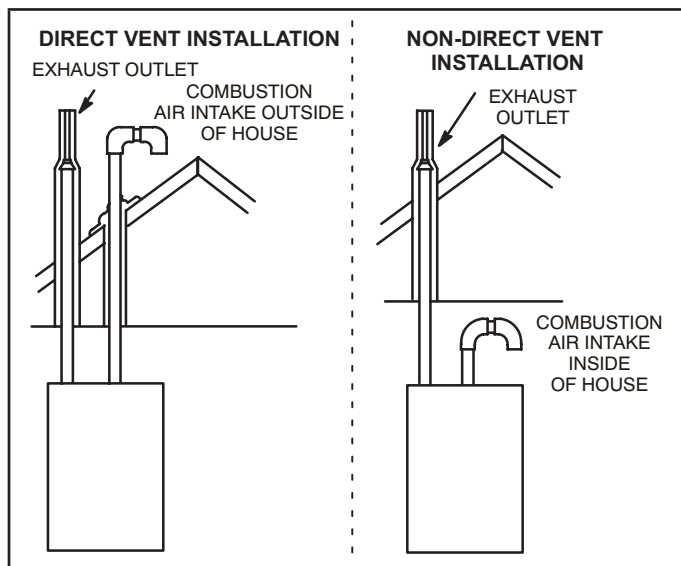
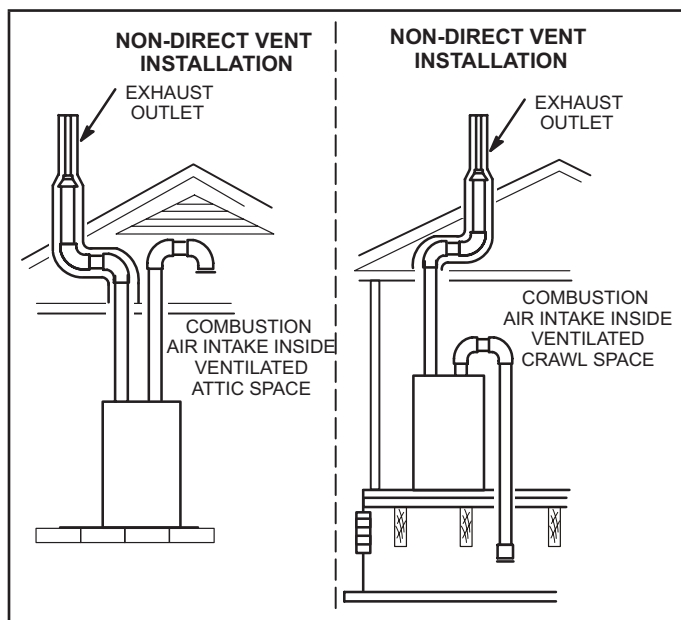

FIGURE 1
FIGURE 2
**NOTE** - In Direct Vent installations, combustion air is taken from outdoors and flue gases are discharged outdoors. In Non-Direct Vent installations, combustion air is taken from indoors or ventilated attic or crawlspace and flue gases are discharged outdoors. See "FIGURE 1" and "FIGURE 2" for applications involving roof termination.